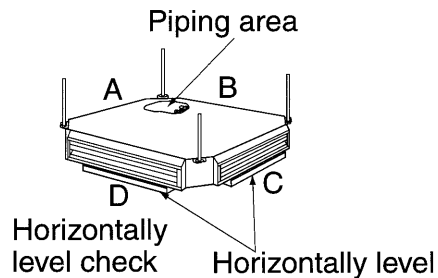

Fig. 19
3. Check whether the unit is horizontally level from sides C and D both. (Refer to Fig. 19)